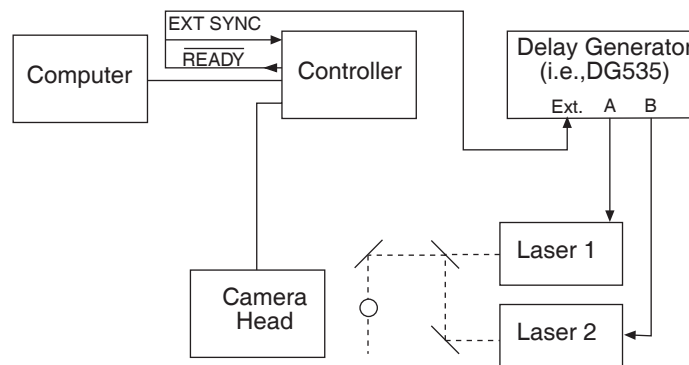

Figure 57. Another Hardware Setup for an IEC Measurement
**Example 2:** As shown in Figure 57, the **READY** signal from the controller can be used to trigger the controller by connecting it back into the **EXT SYNC** connector. At the same time, it can be used to trigger a DG535.